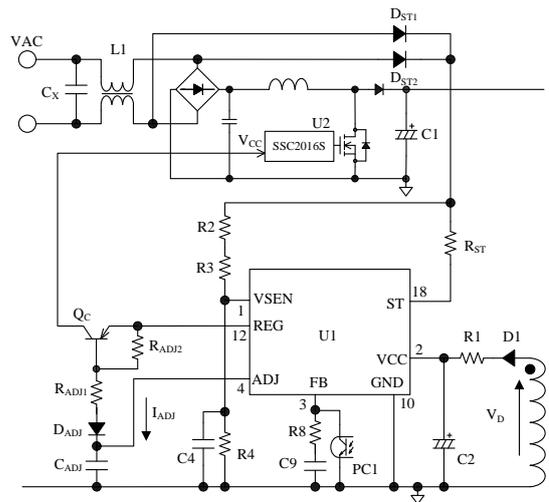
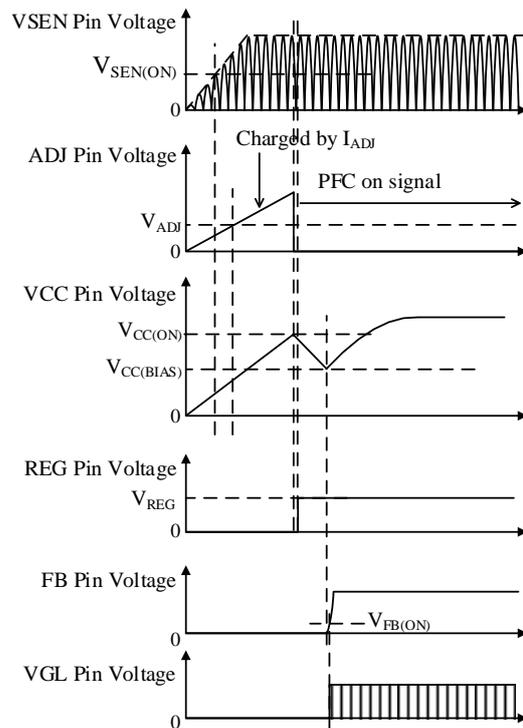

Figure 8-11. VCC Pin Peripheral Circuit When PFC ON/OFF Function is Enabled
Figure 8-12. Startup Operation When PFC ON/OFF Function is Enabled
Figure 8-11 shows the VCC pin peripheral circuit. Figure 8-12 shows the startup operational waveforms.
During the IC operation, the rectified voltage from the auxiliary winding voltage, V_D , of Figure 8-11 is a power source to the VCC pin.
- The value of C2 in Figure 8-11 is increased and/or the value of R1 is reduced.